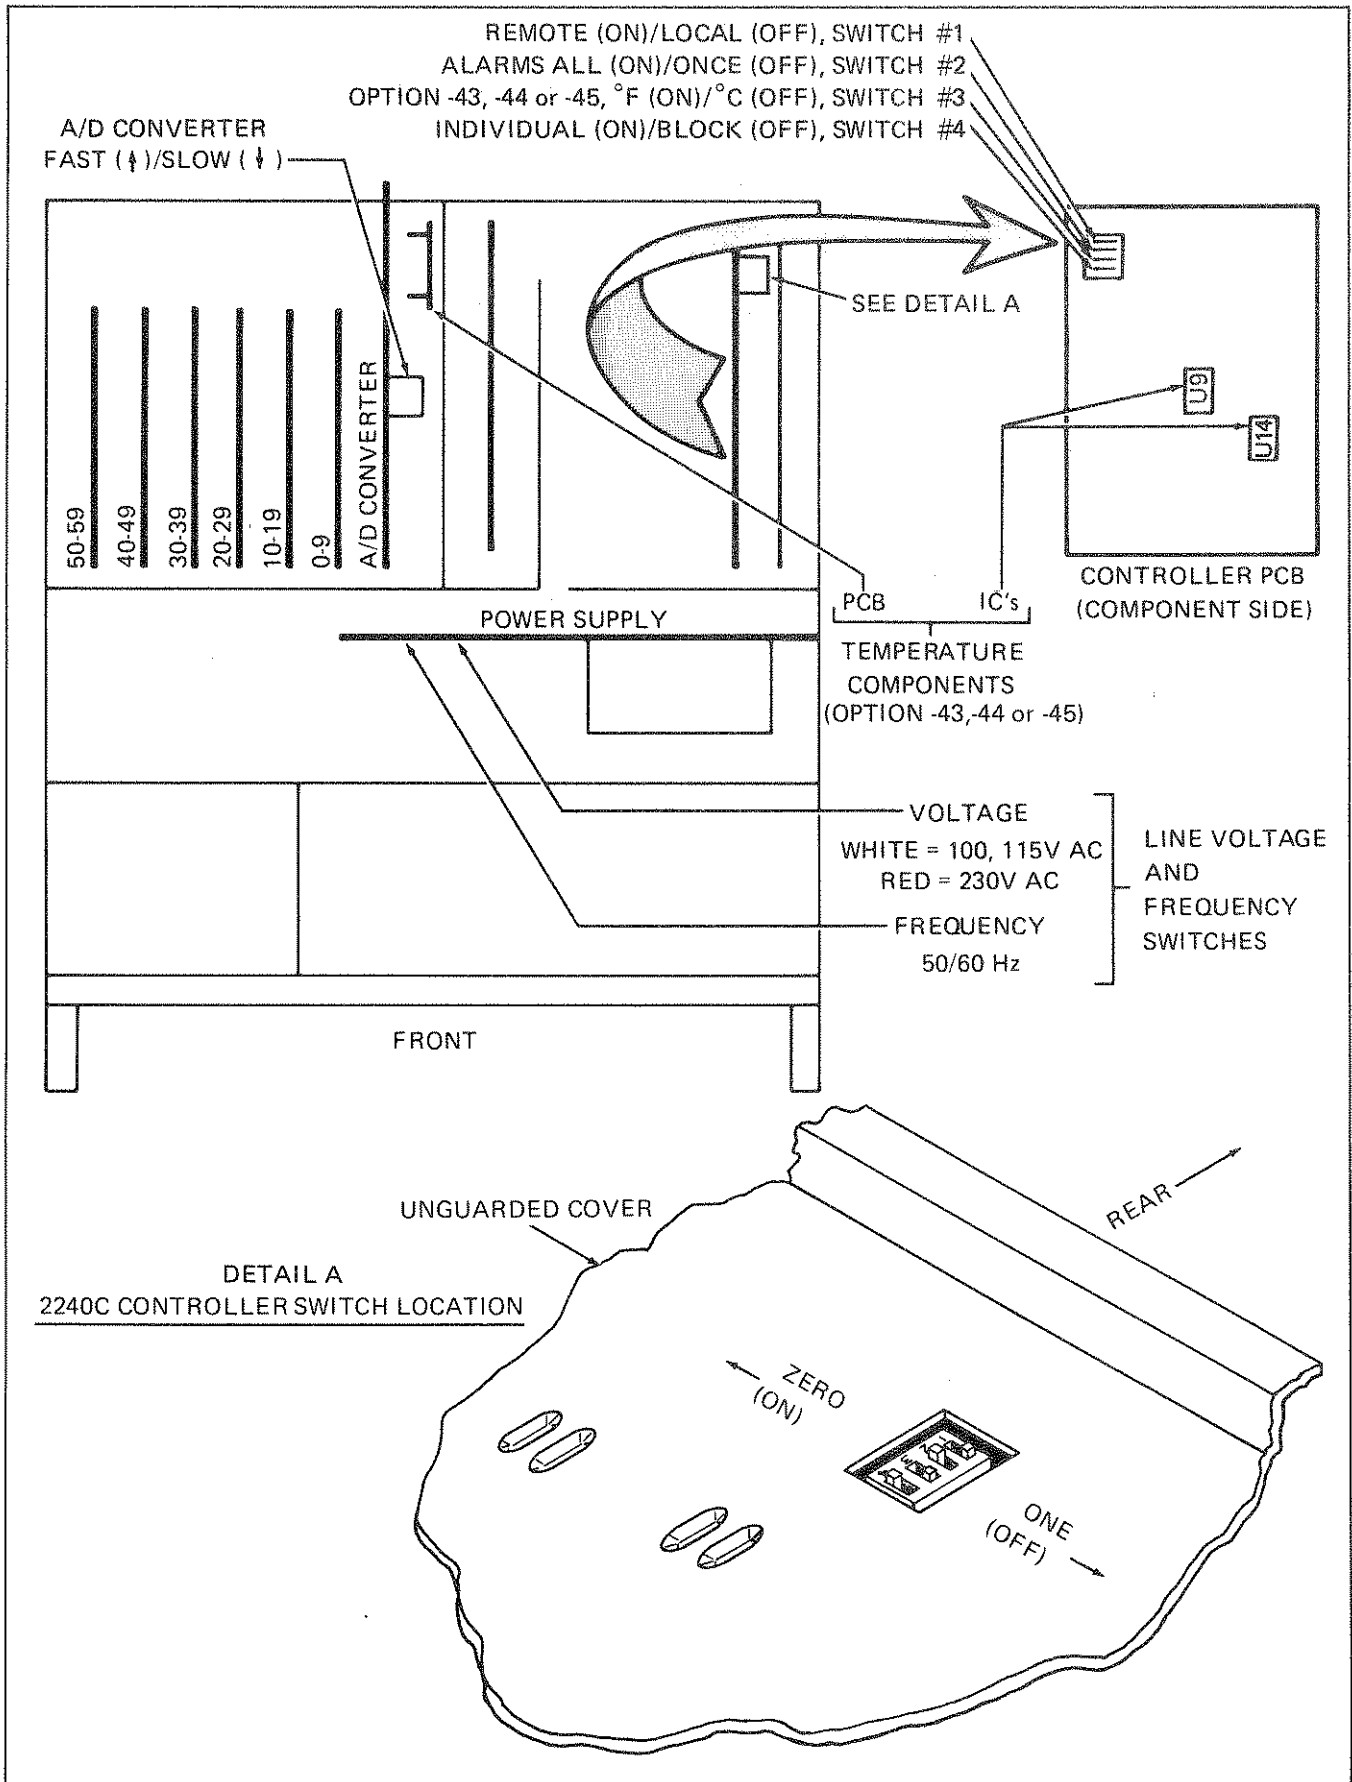

Figure 4-2. Internal Switch Locations
4-21. A series of switches on the inside of the 2240C allows the user to select, and thereby, define certain 2240C operating characteristics. These include: Option -43, -44, and -45 temperature scale (C/ F), programming mode (individual/block), format of printed and/or recorded data (alarm all/once), A/D converter measurement speed (fast/slow), line voltage, and frequency. Figure 4-2 identifies each of the switch locations. Procedures for setting the switches are given in the following paragraphs.
4-23. The individual or block programming mode, as described in Section 2 of this manual, can be selected by setting switch 4 on the Controller PCB Assembly; ON selects the individual mode, and OFF selects the block mode. See Figure 4-2.
4-25. The data formats for recorded data, as described in Section 2 of this manual, can be selected by setting switch 2 on the Controller PCB Assembly. See Figure 4-2. Printed data format is selected by setting switch 2 to ON for alarms all, or to OFF for alarm once.
2. Locate the line voltage switch shown in Figure 4-2.
4. Locate the line frequency switch shown in Figure 4-2.